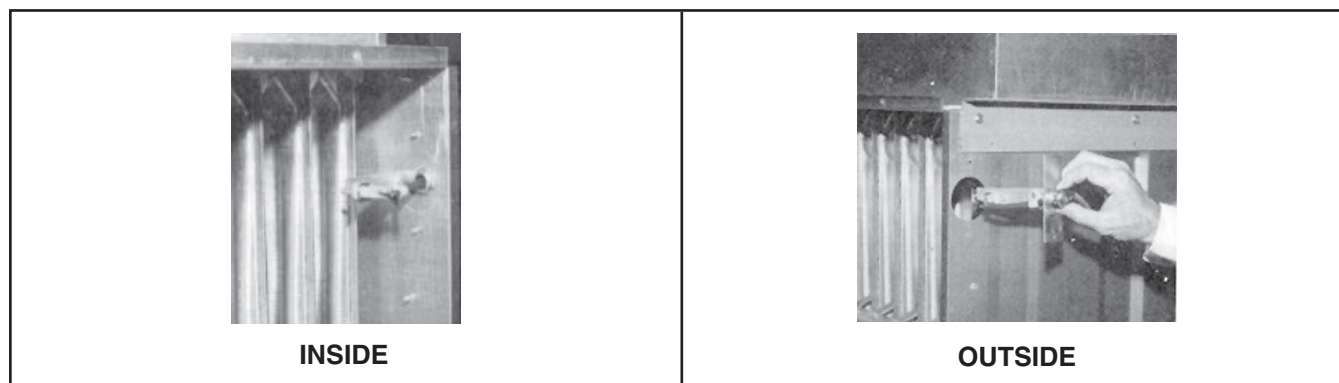

Figure 29. Limit Switch Access
- Depending on accessibility, the limit switch may be serviced from either outside the unit or inside through the access panel in the discharge duct (see Figure 29). When units are installed side by side, the service access panel must be in either the top or bottom of the ductwork for limit switch service (refer to Coupling Additional Furnaces Together and Ductwork Requirements sections).